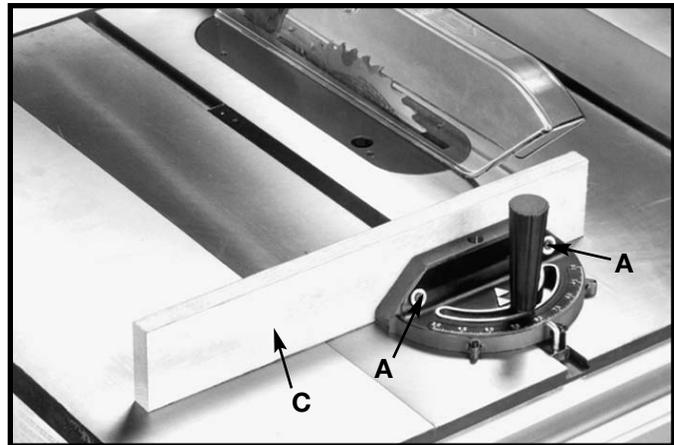

Fig. 60
For added safety and convenience the miter gage can be fitted with an auxiliary wood-facing (C), as shown in Fig. 60, that should be at least 1 inch higher than the maximum depth of cut, and should extend out 12 inches or more to one side or the other depending on which miter gage slot is being used. This auxiliary wood-facing (C) can be **fastened** to the front of the miter gage by using two wood screws (A) through the holes provided in the miter gage body and into the wood-facing.